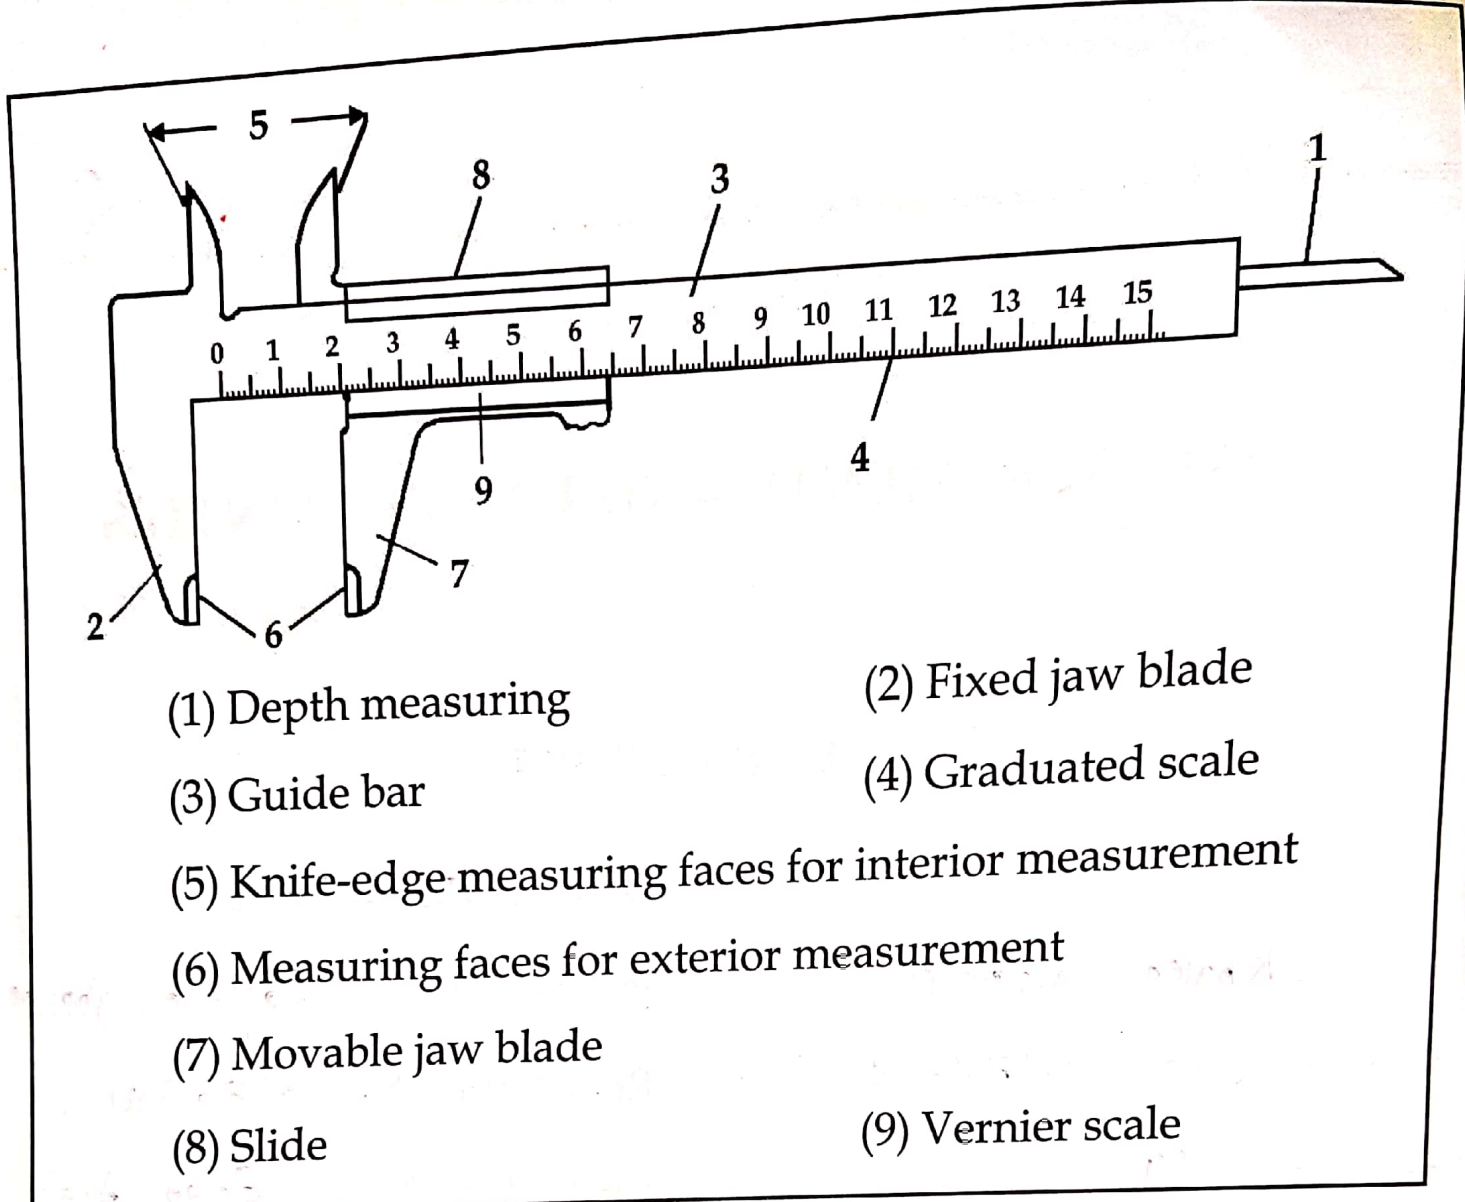

Figure 2.1: Vernier caliper.
- Vernier caliper (Figures 2.1, 2.2)